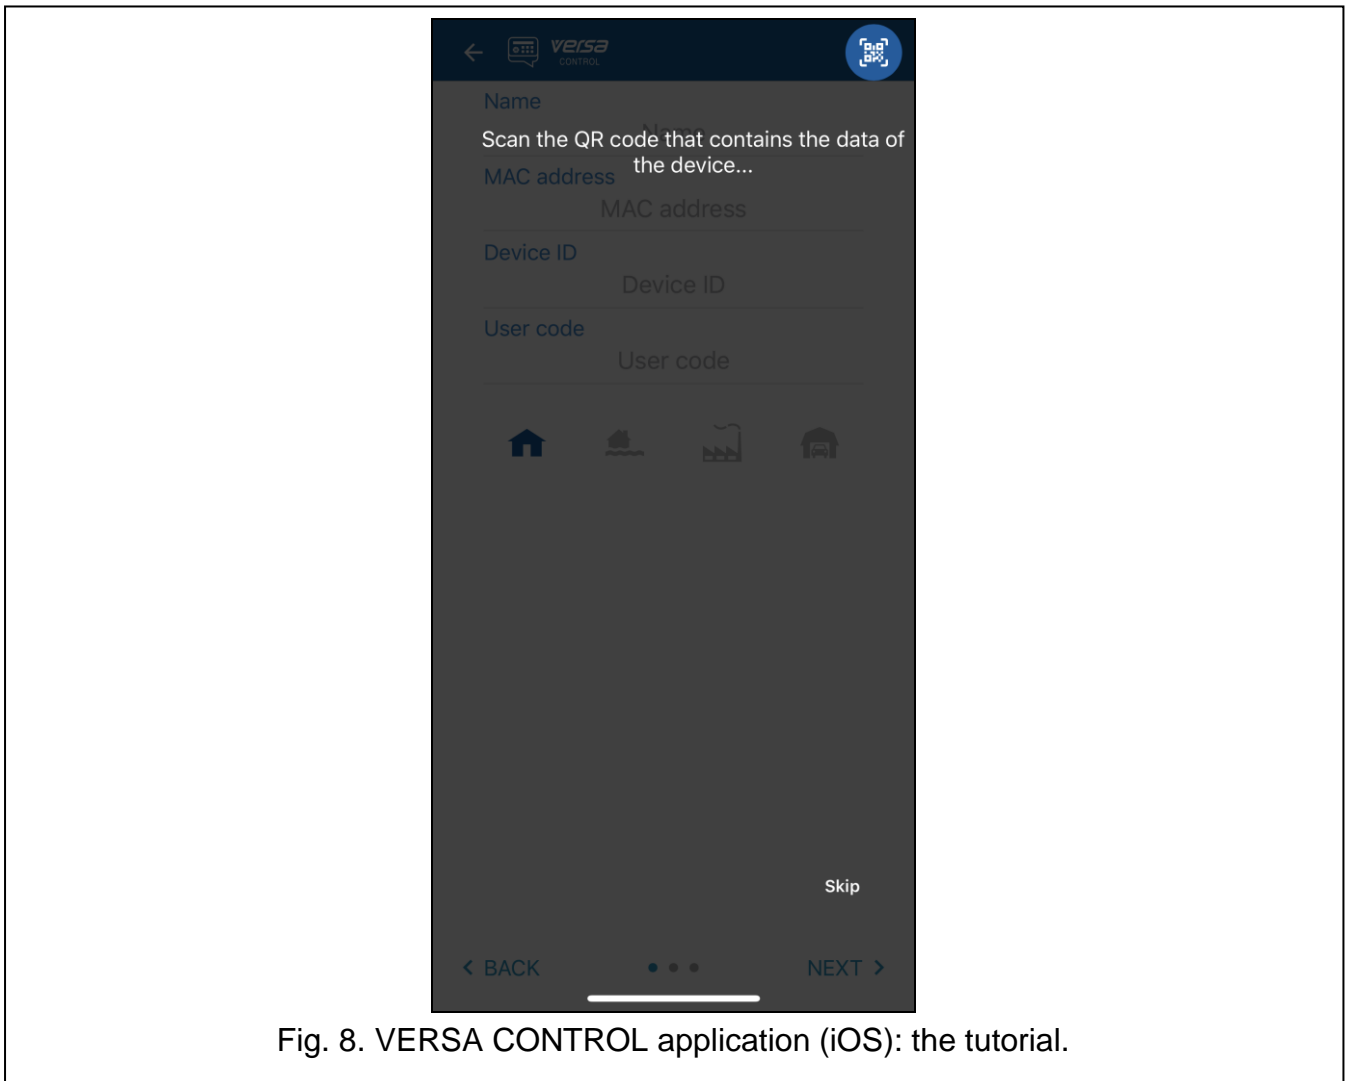

Fig. 8. VERSA CONTROL application (iOS): the tutorial.
3. The tutorial will be displayed (Fig. 8). Tap “Skip” to skip it.